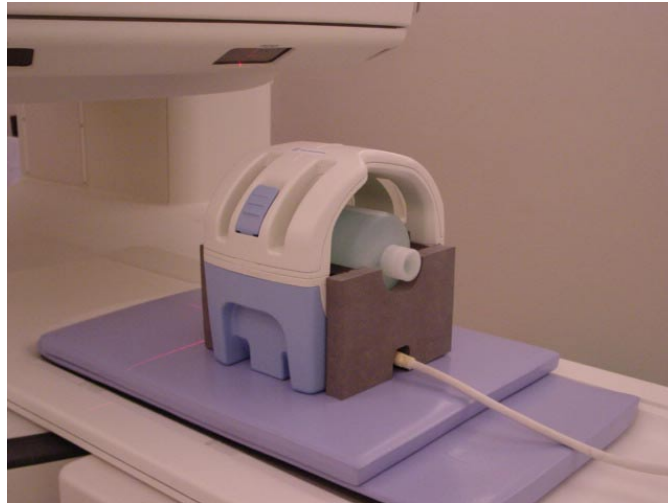

Figure 6: Positioning the large knee phantom.
3. Place the Large Knee phantom and positioner on the coil (see *Figure 6*).